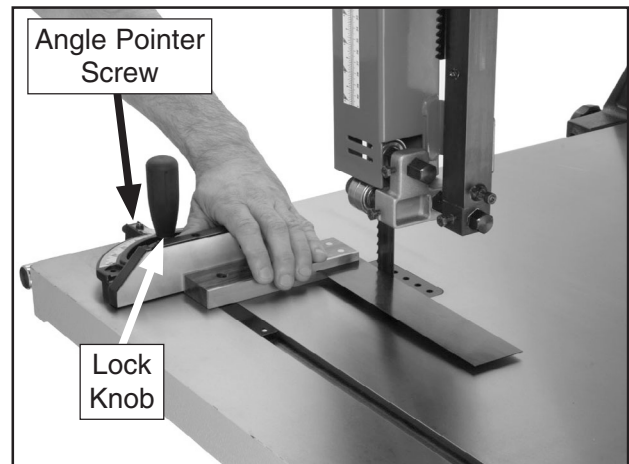

Figure 35. Example of squaring miter gauge to blade.
1. Place one edge of a machinist's square against the face of the miter gauge and the other against the blade face, as shown in **Figure 35**.